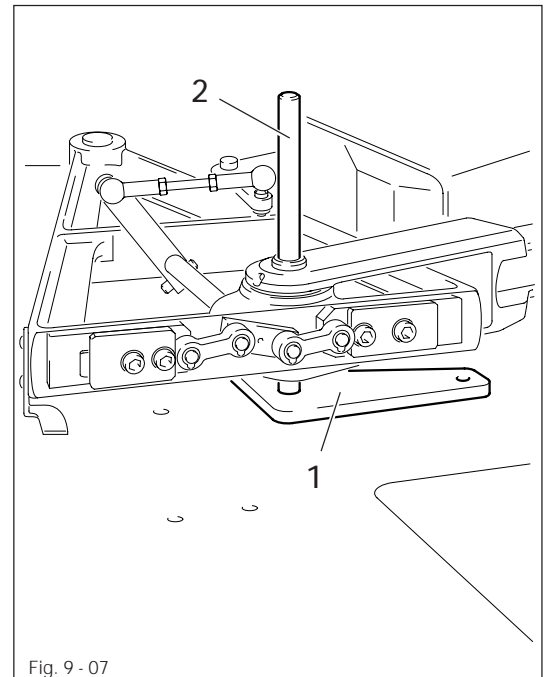

Fig. 9-07
- Insert adjustment pin 2 into the hole in the X/Y control (see Fig. 9-07).